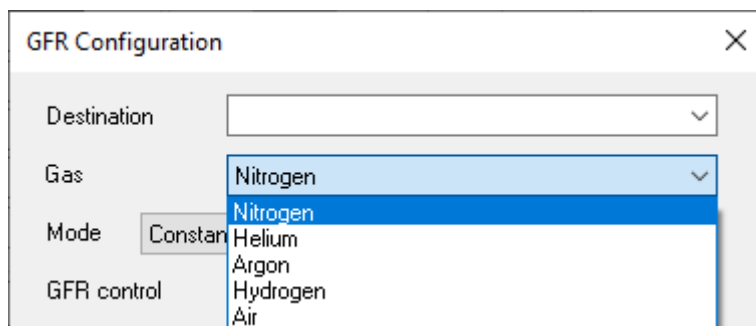

Fig. 35: GFR Configuration
2. Select the GFR channel you want to configure (in the example: 1. Helium). The *GFR Configuration* window opens (Fig. 35).